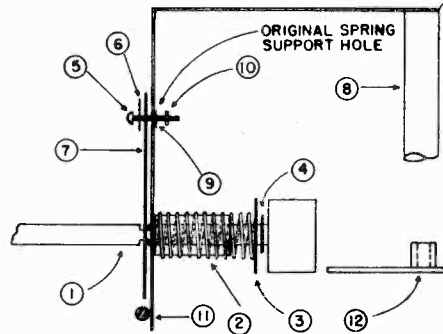

Fig. 1. Lock-in Dial Drive Assembly
This assembly is added to late production receivers to facilitate easier tuning particularly on the short-wave band. On early production receivers, on which a direct pressure drive was used, this drive may be installed, in most cases without removing the chassis from the cabinet. Fig. 1 shows the parts used in making up this assembly.
- A—Remove Pt. 12 and original drive shaft (1).
- B—Assemble parts shown, Fig. 1—Grease Pt. (4) and shaft where it passes through bushing and spring cotter.
- D—Finger tighten nut (10) placing spring mounting lug (6) in vertical position.
- E—Connect original spring between drive assembly (12) and new spring mounting lug (6).
- F—Bend post (8) if necessary to allow approximately 1/8 inch clearance, between rubber drive and part (12)—Bend in direction of arrow to increase clearance.